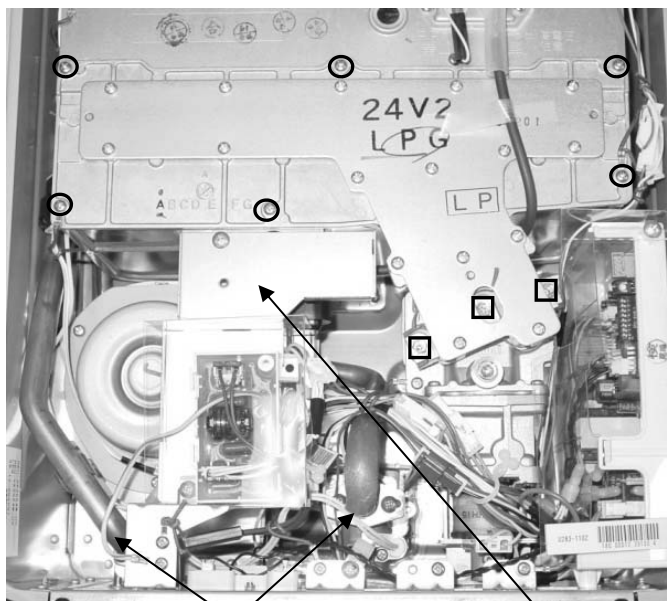

Figure 1
5. On the V53e and R63LSe, remove the screws (3) holding the bracket with the surge protector. (Figure 1)
8. Remove screws and brackets securing the water line connections. (Figure 1)
9. Remove the 6 screws that attach the gas manifold to the combustion chamber (part of the heat exchanger assembly). (Figure 1)
10. Remove the 3 screws that attach the gas manifold to the gas valve. These screws are machine screws and must be used at these locations. (Figure 1)